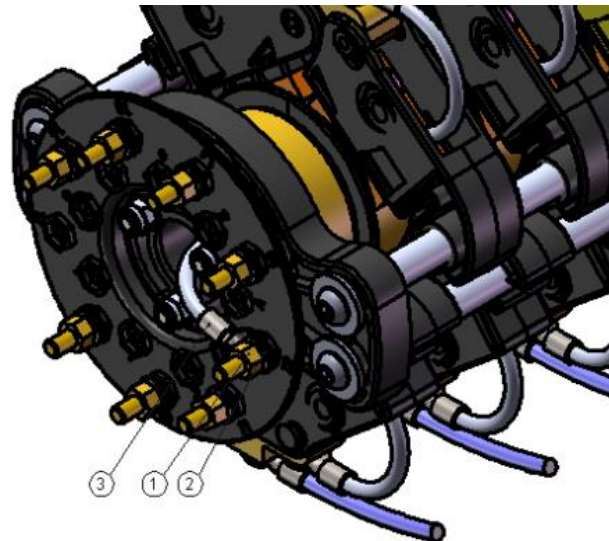

Fig. 16
- Remove the nut (1) and the washer (2) (Fig.16);
- Position the terminals (3) on the pin according to the labelling of terminal board ;
- Secure the terminals with nut (1) and washer (2).